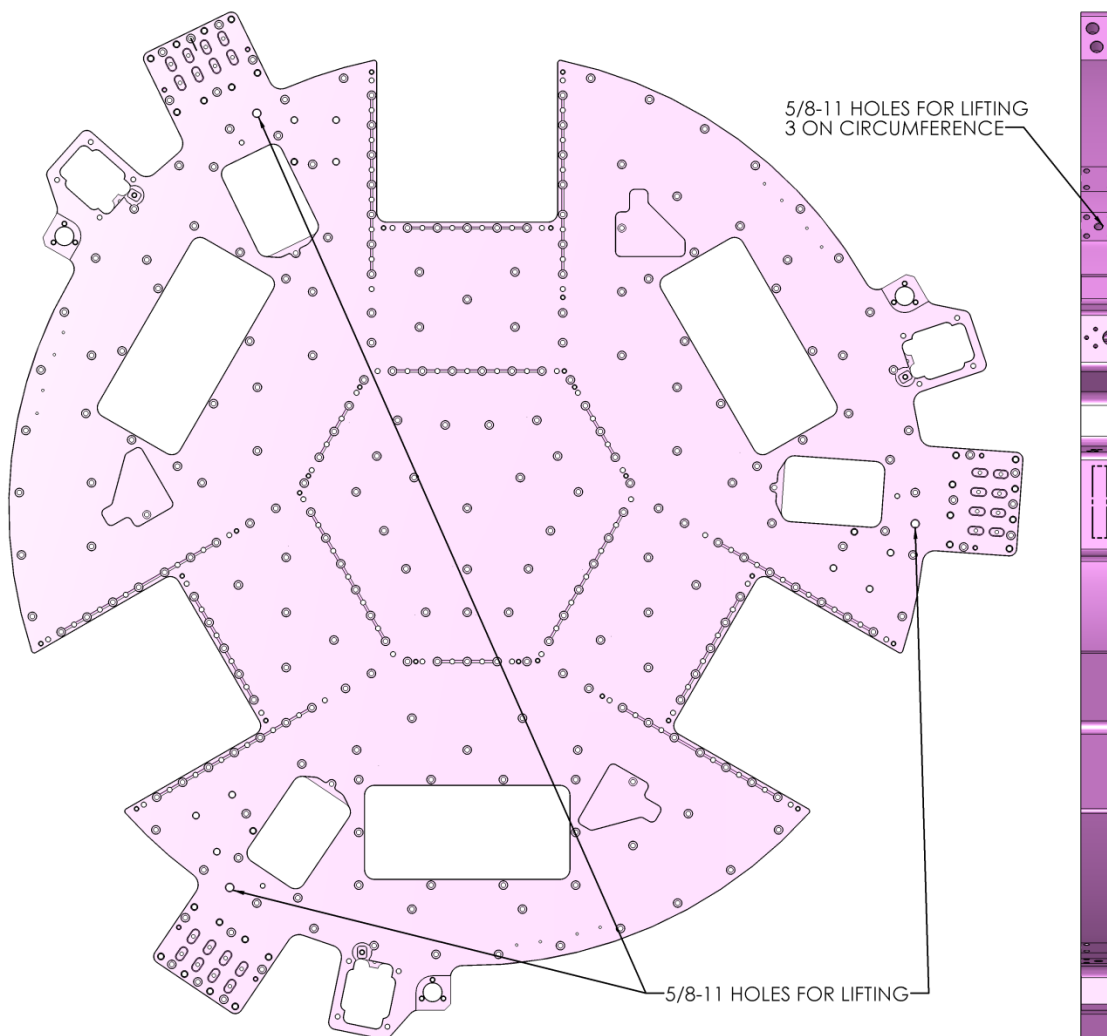

Figure 19: Location of D0901517 Lifting holes to lift the Optical Table Sub-Assembly
- Attach lifting rings and sling to the Assembly via lifting holes located on D0901517 (see Figure 19).